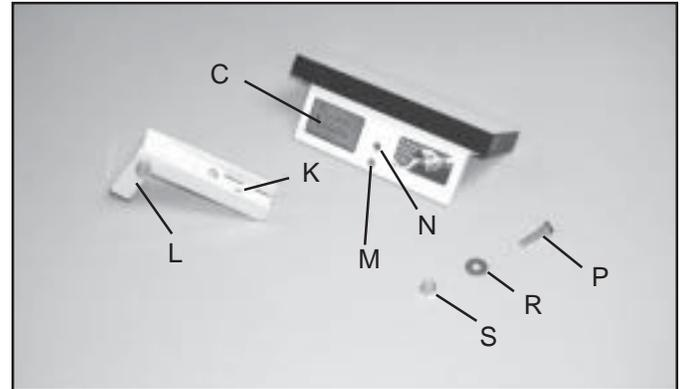
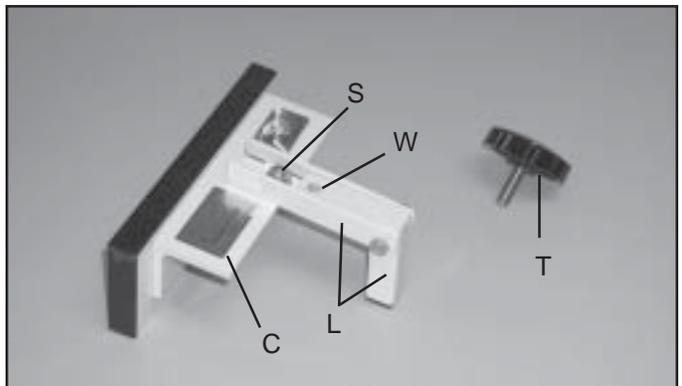

Fig. 7
Fig. 8
10. Align hole (K) Fig. 7, in clamp and bracket assembly (L) with the appropriate thru-hole (M) or (N) in cut-off fence support (C) and fasten using the 1" long hex head bolt (P), flat washer (R) and lockwasher (S). **NOTE: Thru-hole (M) Fig. 7, is used for Biesemeyer® commercial fences, or fences which are approximately 4" wide, and thru-hole (N) is used for Biesemeyer® home shop fences, or fences that are approximately 3-1/2" wide. Also, bolt (P) Fig. 7, is to be inserted from the bottom with the flat washer (R) and lock nut (S) located on top.**
CAUTION: Do not tighten lock nut (S) Fig. 7, completely, for clamp and bracket assembly (L) Fig. 8, needs to move freely.
11. Fig. 8 illustrates clamp and bracket assembly (L) properly fastened to cut-off fence support (C), for use with a Biesemeyer® commercial fence. Assembly to Biesemeyer® home shop-style fences is similar.
12. Thread knob (T) into threaded hole (W) of clamp and bracket assembly (L) approximately four complete turns.